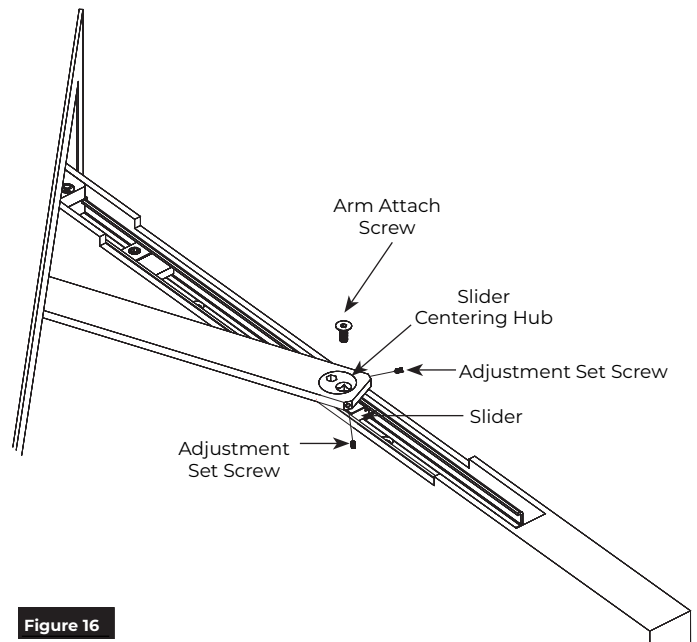

Figure 16
3. Install slider centering hub through arm into slider. (Figure 16)
5. Insert arm attach screw, 1/4-20 x 3/4" FH-Allen w/Nylon Patch, and tighten. (Figure 16)